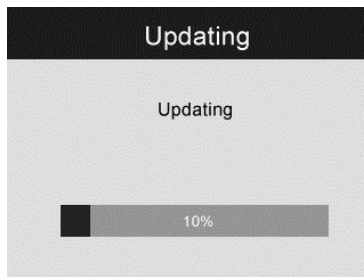

Fig. 29
- 3) Press **Power** button to turn on the tool and then press **UP** button until the update screen pop up, select **YES** to upgrade the tool (**Fig. 29**).